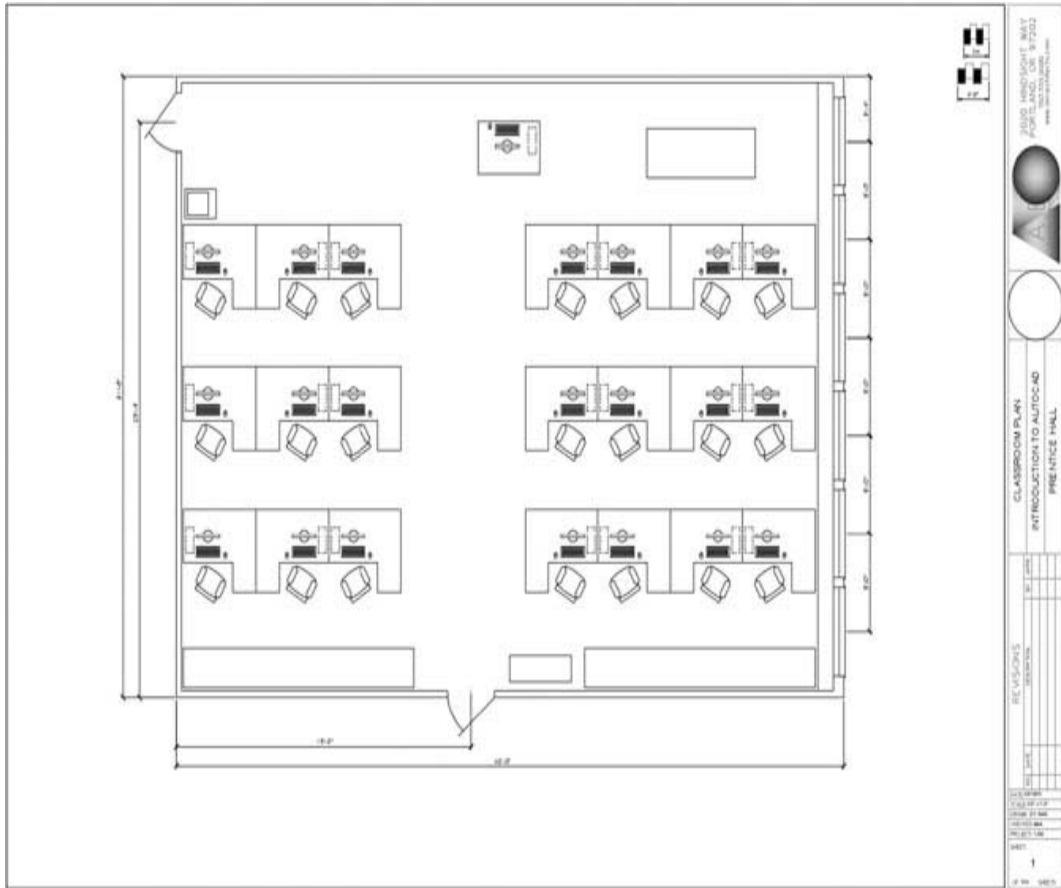

Figure 17-49
4. Insert the drawing **Title Attributes Architectural D-Size.dwg** as a block. Use an insertion point of **-.5,.25**. Fill in appropriate values for the attributes. Your drawing should resemble Figure 17-49.